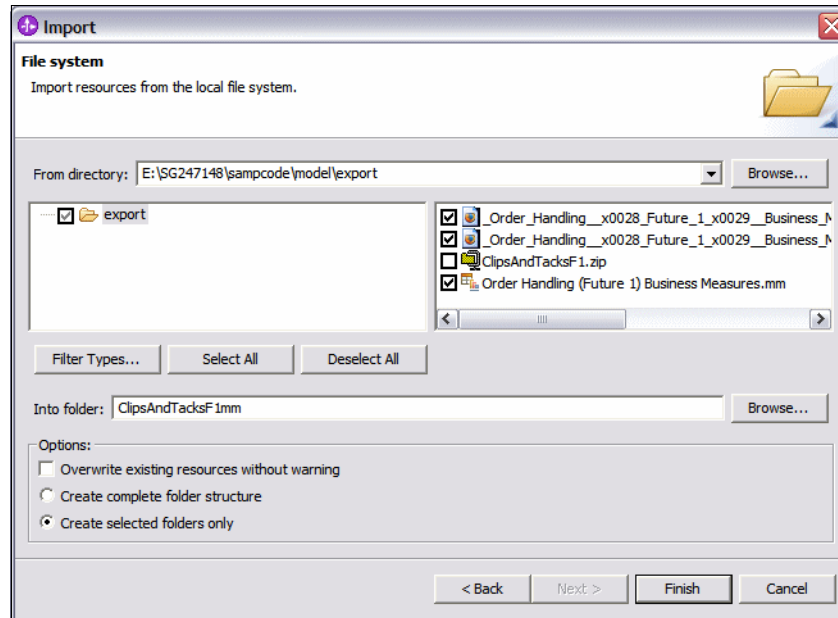

Figure 12-3 Import the business measures files
- ▶ Select the two .svg files and the .mm file. Make sure the Into Folder contains ClipsAndTacksF1mm. Click *Finish* (Figure 12-3).